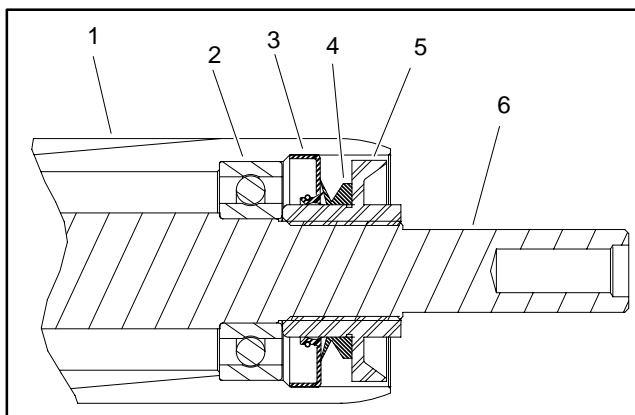

Figure 24
5. Insert a v-ring seal onto each bearing lock nut with the thick shoulder of the v-ring seal toward the lock nut (Fig. 24).